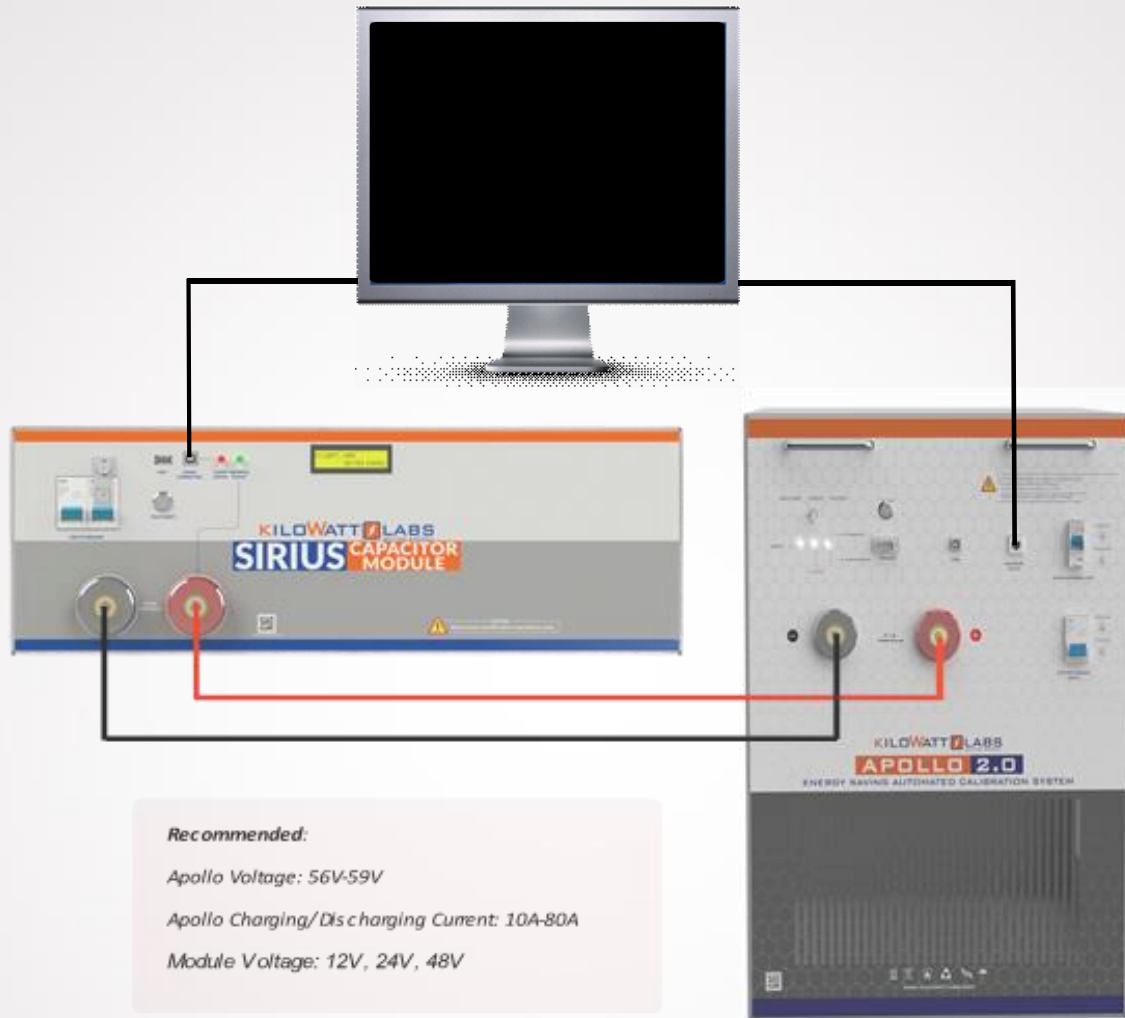

Figure 10. Connection of Apollo to PC and Sirius Module
Step 1: Connect the Apollo to PC and Sirius Module as shown in Figure 10.